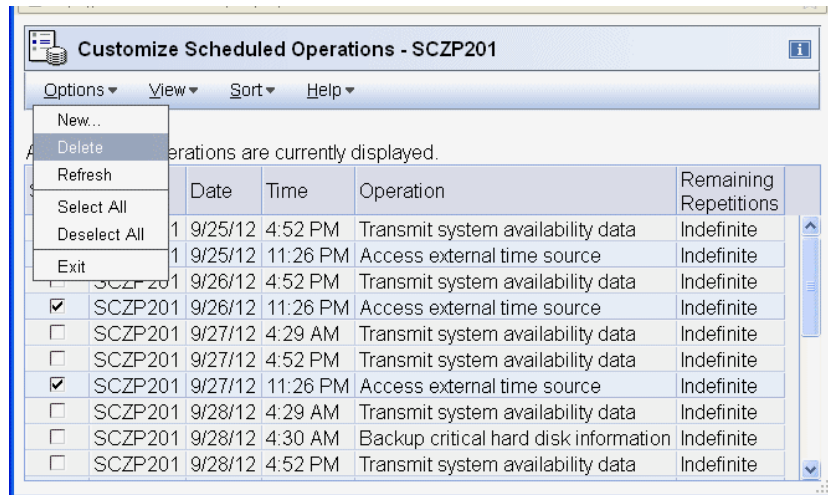

Figure 1-85 Delete dial-out scheduled operation
1. Delete the scheduled operation from all Support Elements that are currently configured to use the ETS dial-out capability. Select the servers to be changed, select **Operational Customization**, then select **Customize Scheduled Operations**. In the list of scheduled operations select all operations of type "Access external time source" (this might be multiple) and click **Options** and **Delete** (Figure 1-85 on page 51).